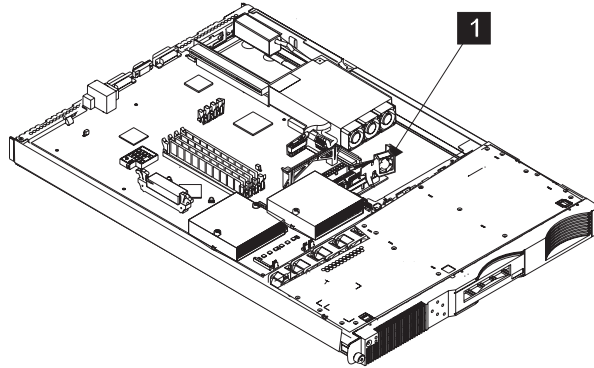

Figure 106. Removing a SAN Volume Controller 2145-4F2 disk drive fan
5. Remove the entire fan assembly **1**, as shown in Figure 106, by sliding the right-hand side of the disk drive fan forward. Then, pull the assembly away from the clip.